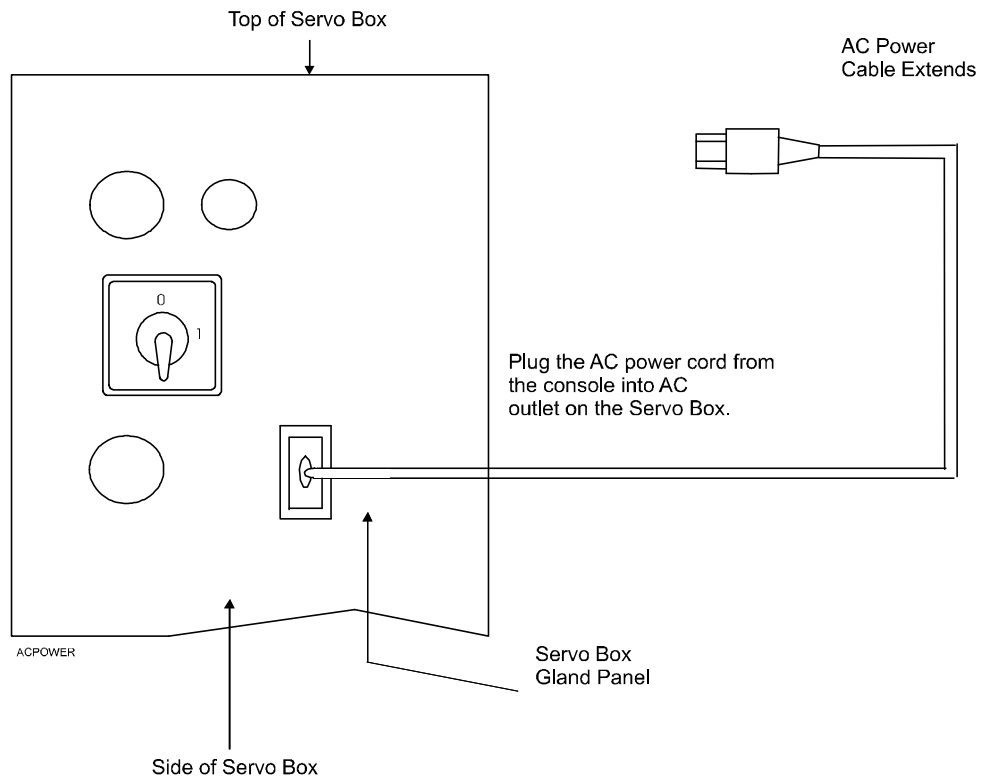

Figure 3-4, Monitor AC Power Connection
12. Refer to **Figure 3-4**. The AC power harness, P/N 36000262, cord from the console into the AC outlet on the servo box.